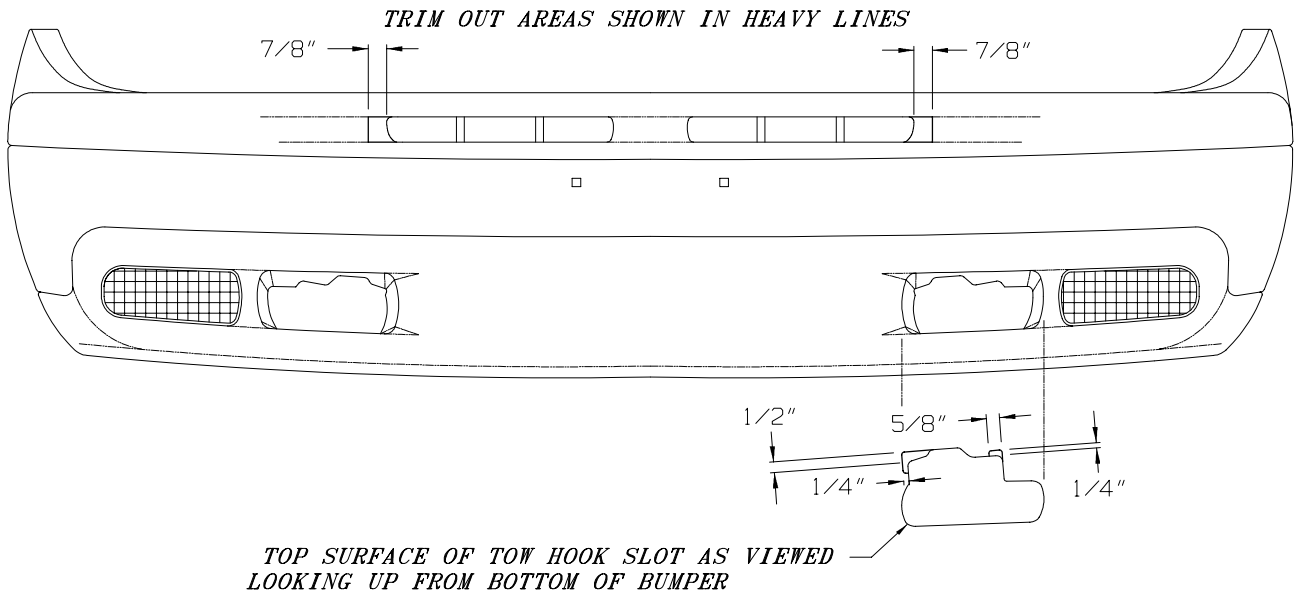

FIGURE 4
- With the bumper on the floor or a bench, trim both the upper and lower plastic pieces as shown in **Figure 4**. The plastic is easy to cut with a small sharp knife or saw. On the upper piece, push out the flat air slot closure pieces and enlarge the slot outwards to the metal portion of the bumper. **On 2wd trucks only, the entire recessed flat area in the lower plastic piece must be trimmed out to allow the lower bracket to protrude thru.**